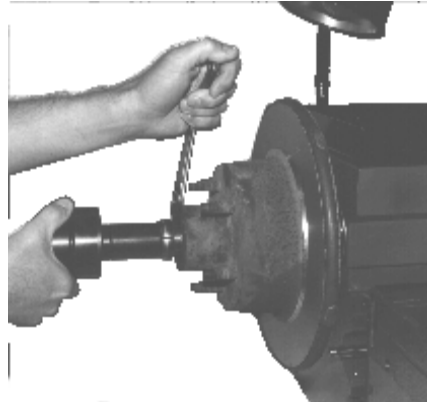

Figure 39
17. To remove the rotor from the arbor, loosen the arbor one turn and place the spanner wrench between the rotor and the collet in the outer bearing race. Push the top of the wrench toward the rotor, a slight hand tap on the wrench may be necessary to free the collet from the bearing race. **See Figure 39.**